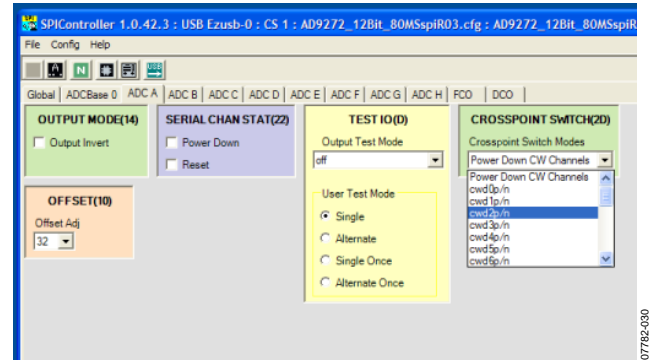

Figure 19. SPI Controller, CROSSPOINT SWITCH(2D) Box
- In the ADC x tab of the SPI Controller, where x is the channel to which an analog input is applied, find the **CROSSPOINT SWITCH(2D)** box. From the **Crosspoint Switch Modes** drop-down box, select the **cwd2p/n** option (see Figure 19).